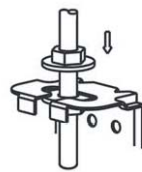

fig. 7
- Locate the air conditioner firmly by wrenching the nuts after having adjusted the body's position well.(refer to fig.7)